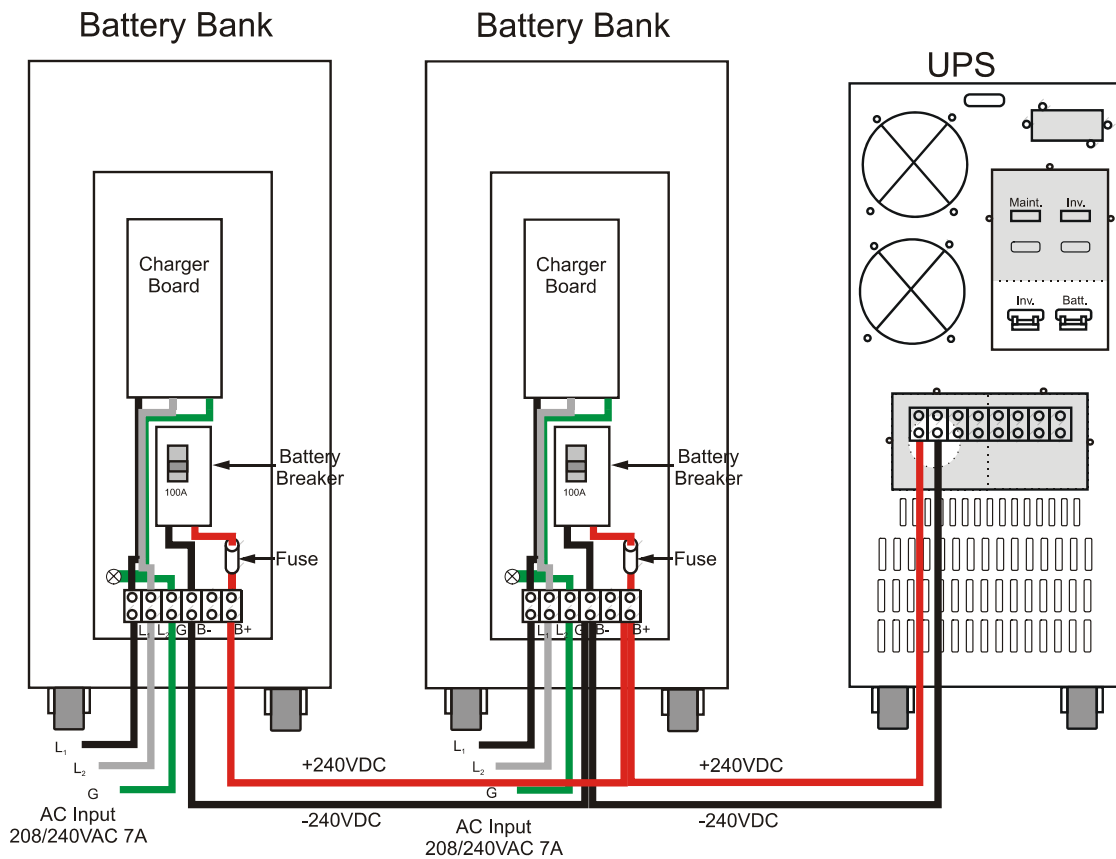

Figure 13.1.1
- 5) If multiple battery banks have been purchased connect all batteries banks together in a parallel fashion (Batt. Pos. to Batt. Pos. and Batt. Neg. to Batt. Neg. see Figure 13.1.1) before connecting the final battery bank to the UPS.
- 8) Additional battery banks for the TN series UPS's require an additional 208VAC or 240VAC (multi-phase) supply to power the additional charger (provided with the battery bank). Connections are shown in Figure 13.1.1. (Cable not supplied).